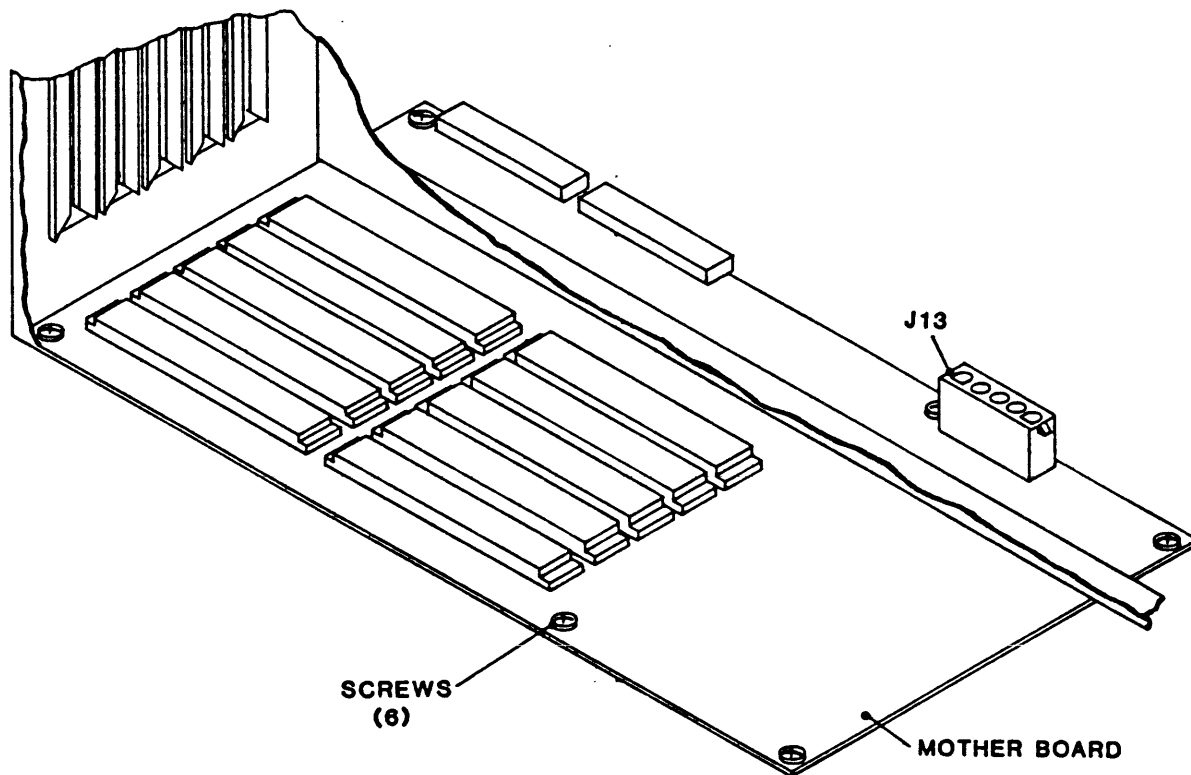

Figure 4-9 Mother Board
4.3.9 MOTHER BOARD PCBA (Fig. 4-9)